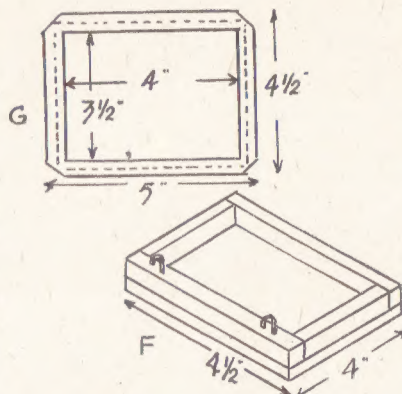

Fig. 4—Type box details
The chase or type box (F) in Fig. 4, is a rectangle of $\frac{1}{2}$ in. fretwood. Strips of wood, $\frac{3}{8}$ in. thick and $\frac{1}{2}$ in. wide are firmly glued and screwed to it, making a shallow tray to hold the type. A metal frame is now made to the size given at (C) from tinplate. This is to hold the padding between the type and flat base of